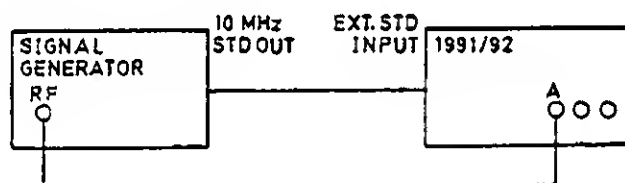

Figure 6.27 - Connections for Channel A Sensitivity PVP (I)
- Connect the test equipment as shown in Figure 6.27. Check that the EXT STD LED lights